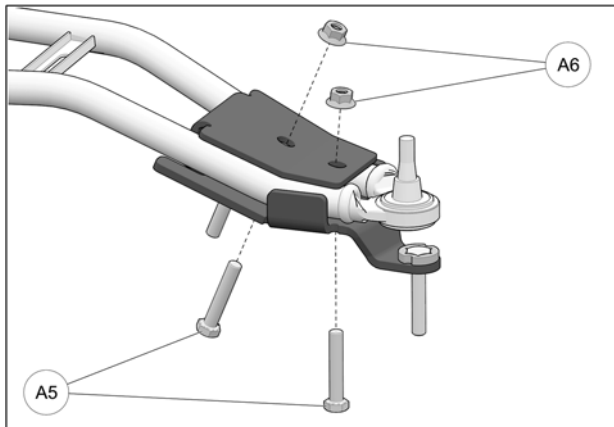

Fig. 18
7. Insert the M10x55mm bolts (A5) from the bottom and secure the two parts together with the nuts (A6) provided. Tighten assembly to 50 N•m [37 lb•ft] of torque. See Fig. 18